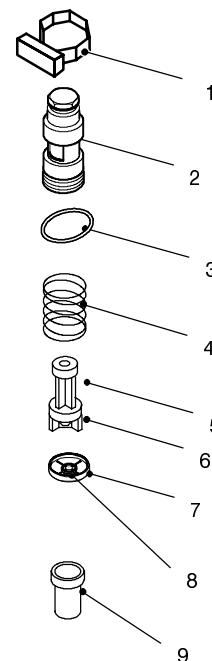

Fig. 67
When the flow rate through the d.h.w. circuit reaches about 2,5 litres/min', the float **6** (Fig. 67) is drawn towards the right.
14.2 Nomenclature and location of parts (Fig. 67)
- 3 Unscrew the body 2 (Fig. 67) and extract the flow switch group.
- 4 To remove the filter from the flow switch group separate the filter 9 from the threaded ring (Fig. 67) by levering it.
- 3 Unscrew the threaded ring 7 (Fig. 67) and remove it from the body 2.